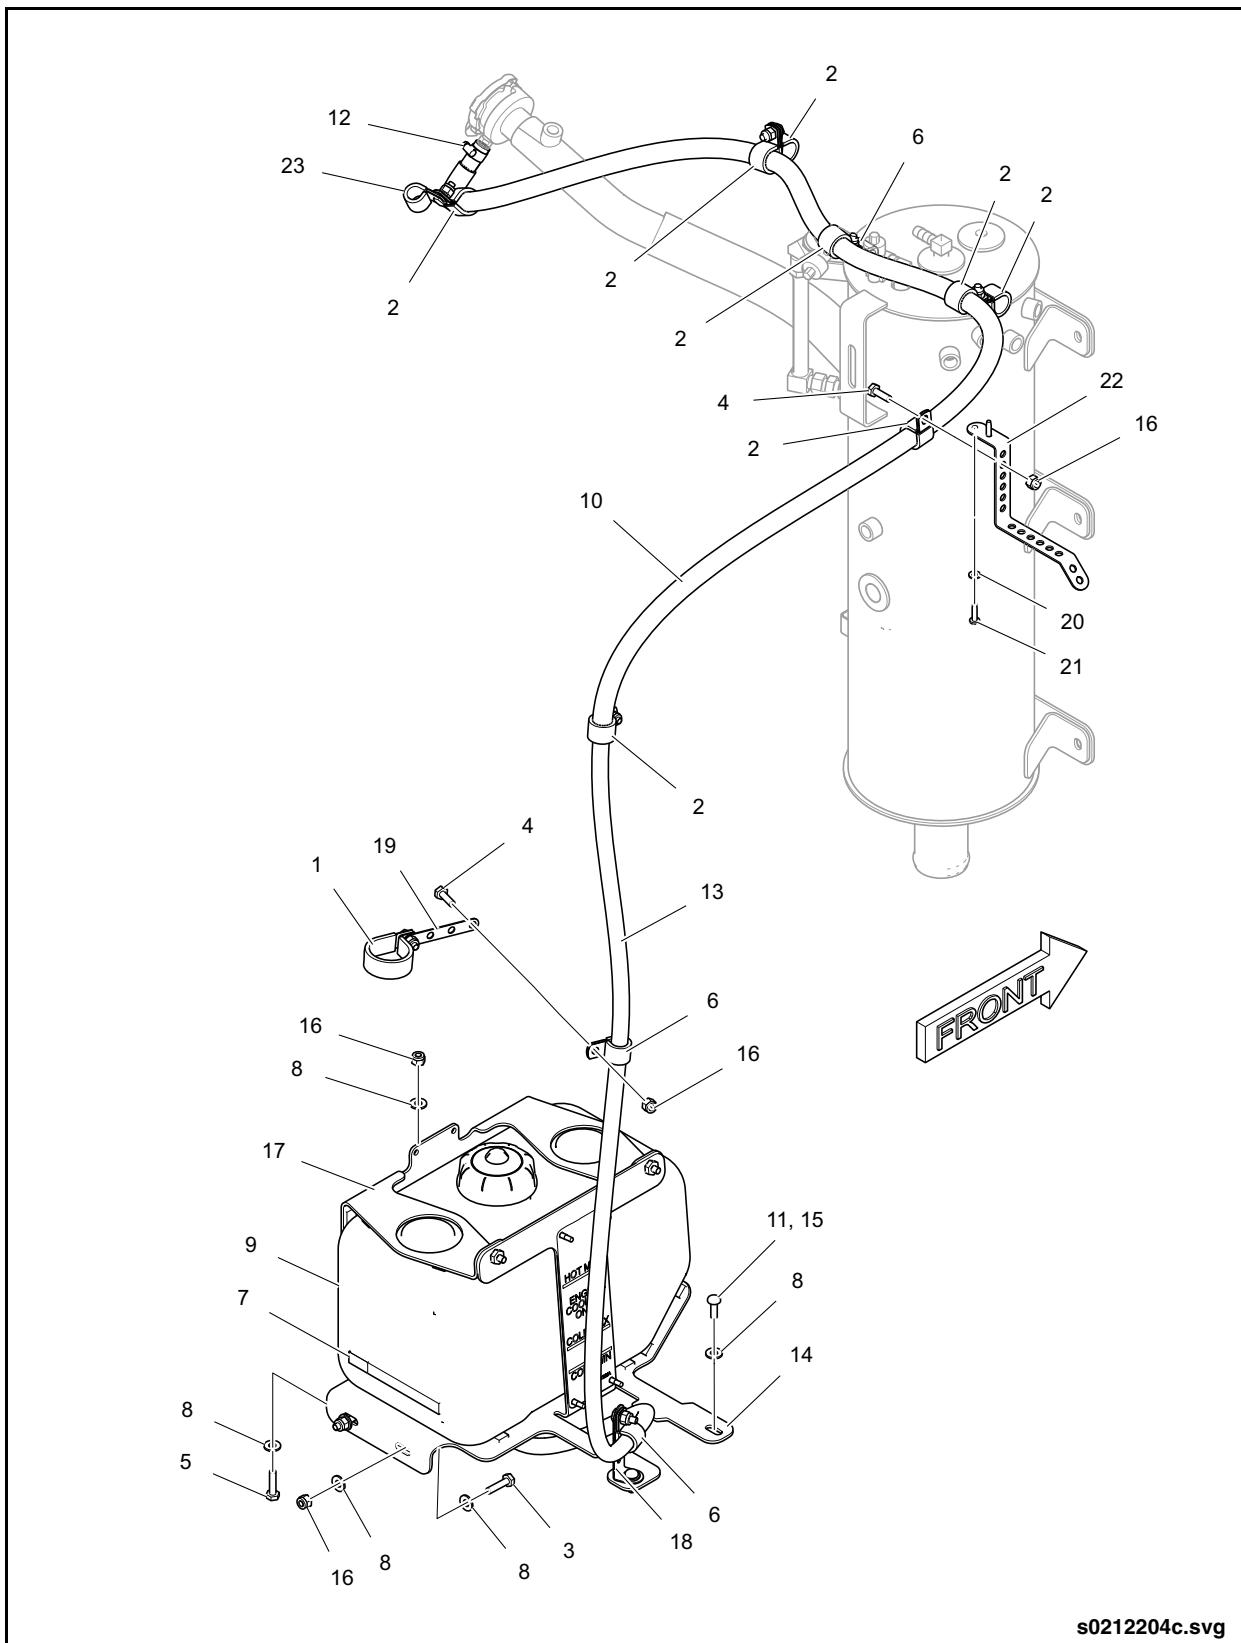

Fig. 6-8: Coolant Recovery Tank
5. Remove the upper and lower fasteners that attach the tank cage to the tank mounting bracket. See “Fig. 6-8: Coolant Recovery Tank” on page 28.